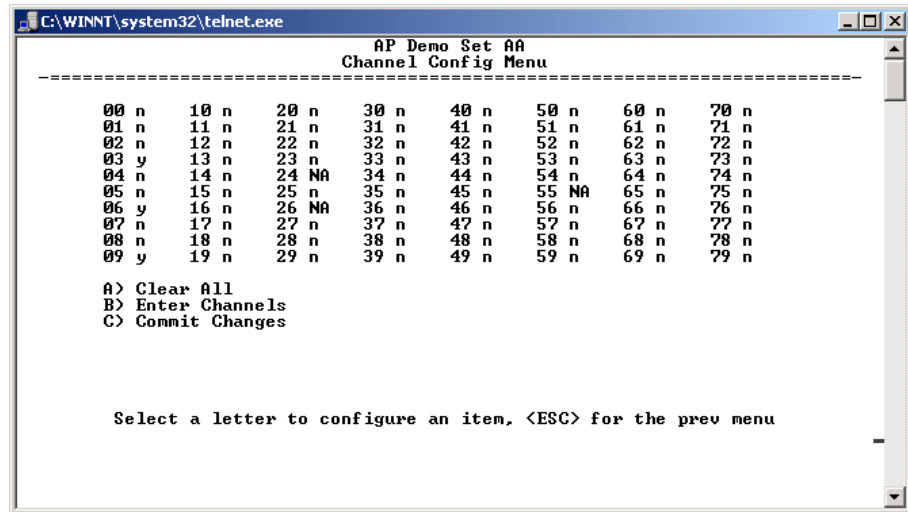

Figure 3-21. Channel Config Submenu
- **Channel Config**—Brings up a submenu (Figure 3-21) that displays.